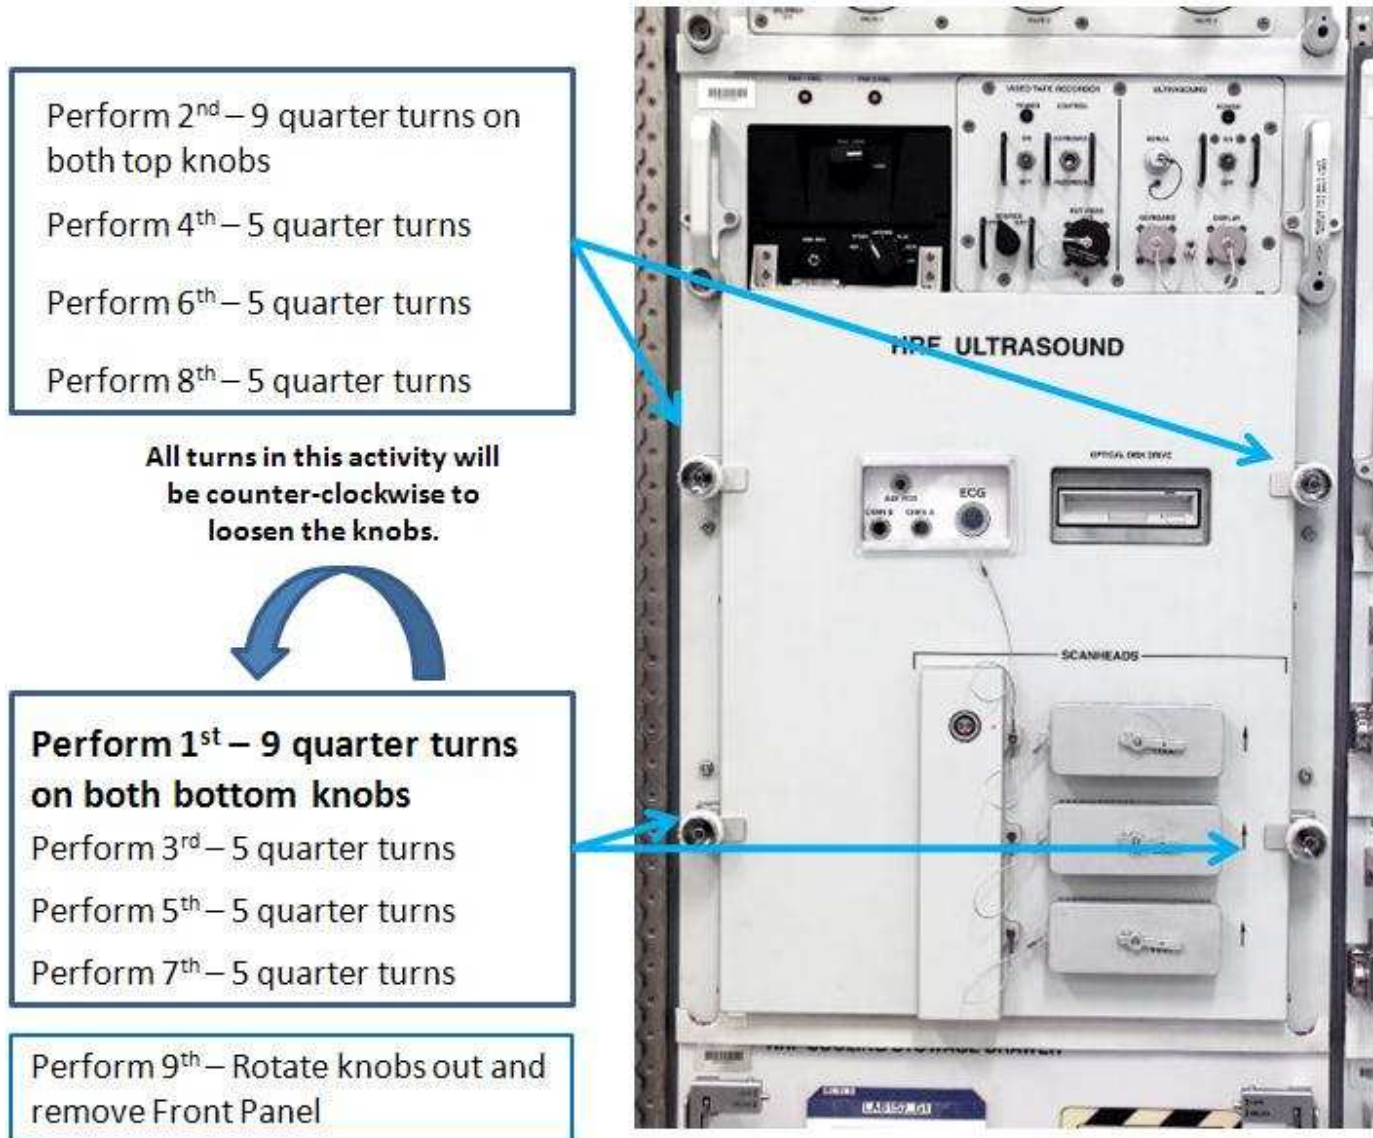

Figure 3. - HRF Ultrasound Front Panel Removal Guide.
- 1.6 Loosen HRF Ultrasound front panel knobs in this order as follows (see Figure 3 for further guidance if necessary):